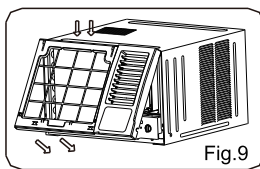

Fig.9
- Install the frame. (See Fig.9).